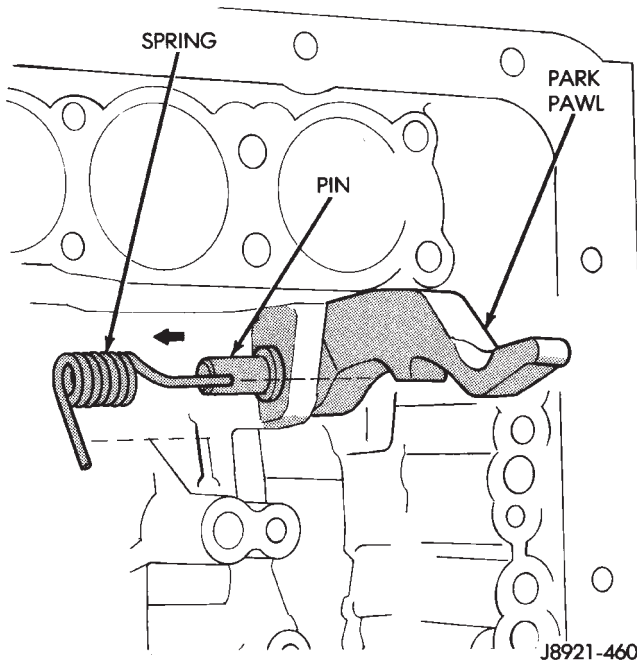

Fig. 35 Removing/Installing Park Pawl, Pin And Spring
- (4) Remove park rod.
- (5) Remove park pawl, pin and spring (Fig. 35).
- (6) Examine park rod, pawl, pin and spring. Replace any component that is worn or damaged.
- (7) Install pawl in case. Insert pin and install spring. Be sure spring is positioned as shown in Figure 35.